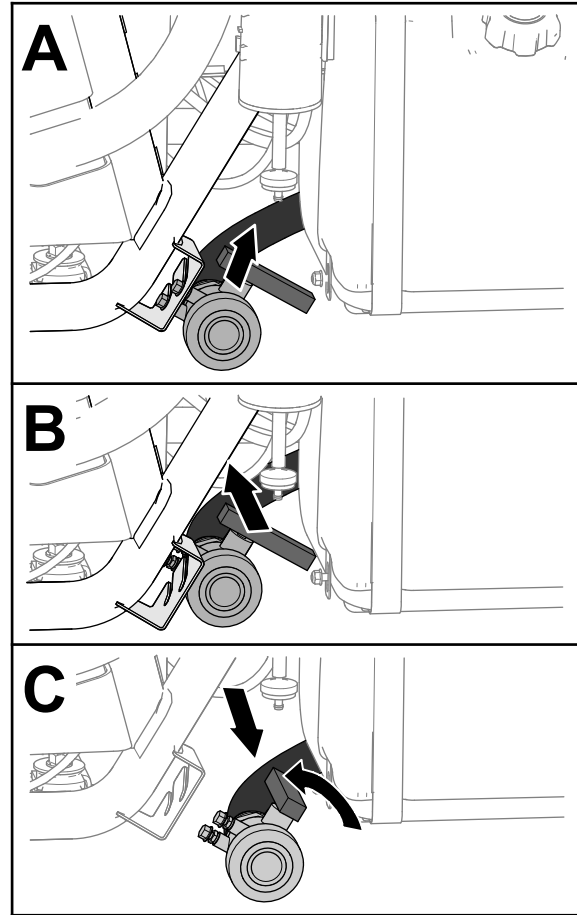

Figure 28
2. Locate the tank-drain valve at the left side of the machine, forward of the fuel tank (Figure 28).
3. Lift the valve and move the it inboard until the mount studs of the valve clear the slots in the drain-valve bracket, and move the valve rearward (Figure 28).
4. Align the end of the valve with the drain container and rotate valve handle counterclockwise to the open position (Figure 28).
5. When the tank has drained completely, rotate the drain-valve handle to the closed position and assemble the valve onto the drain-valve bracket (Figure 28).